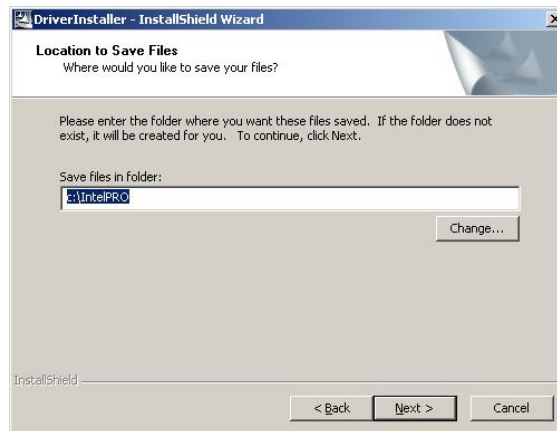

Figure 7-18: Select the Driver Directory
Step 3: Accept the License Agreement by clicking “Next.” The follow-up window prompts for the directory the driver is stored in. (See **Figure 7-18**)